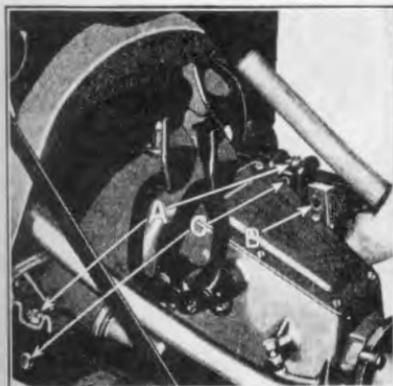
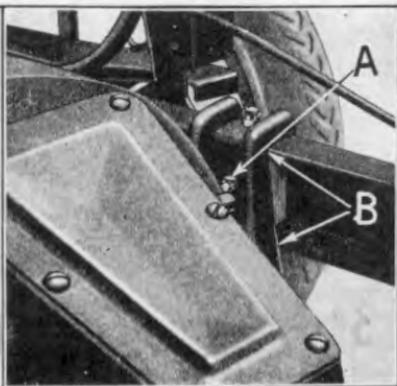

Fig. 86
Fig. 87
- 98 **Install crankcase arm bolts—top**—Insert the two crankcase arm bolts—top through frame and crankcase arms, running down nuts on ends of bolts and locking nuts with cotter keys (See "A" Fig. 86).
- 99 **Install crankcase arm blocks**—Insert the two crankcase arm blocks into channel of frame and position them behind crankcase arms, lining up the holes in the blocks with bolt holes in frame and crankcase arms (See "B" Fig. 86).
- 100 **Install crankcase arm bolts—side**—Insert crankcase arm bolts—side (See "C" Fig. 86), through frame block, and arm. Run down nuts on ends of bolts and lock with cotter keys (See "A" Fig. 87).